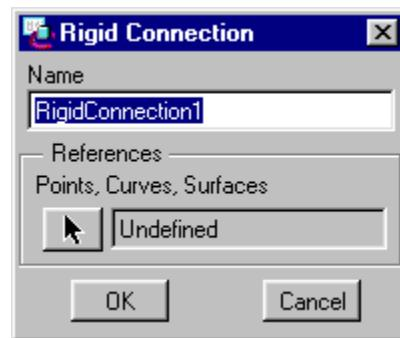

Figure 5
3. Now we can create the Rigid Connection. Then menu picks are **Model**, **Idealizations**, **Rigid Connections**. This will bring up the Rigid Connection definition window, see Figure 5. It allows giving a separate name to each Rigid Connection. Select the arrow to choose which entities that should be connected. Geometric entities, such as surfaces, curves and points may be chosen.